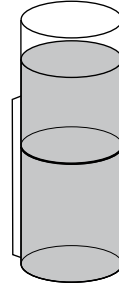

Fig. 2
- **the filter needs to be changed!** (Fig. 2)